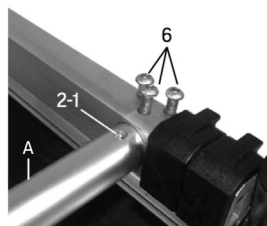

Fig. 2
3. Loosen the 3 hex screws (#6) found on the top of the blade assembly (Fig. 2).